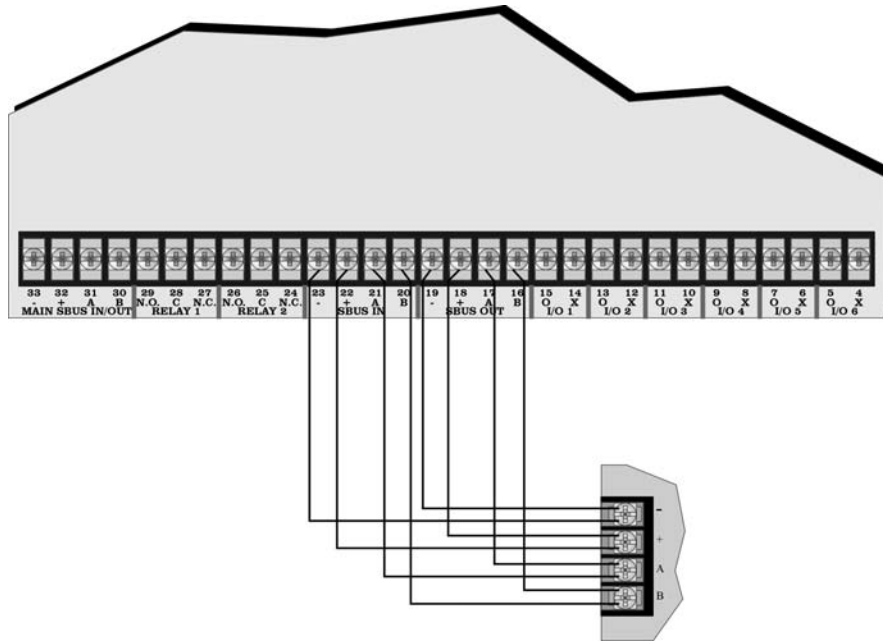
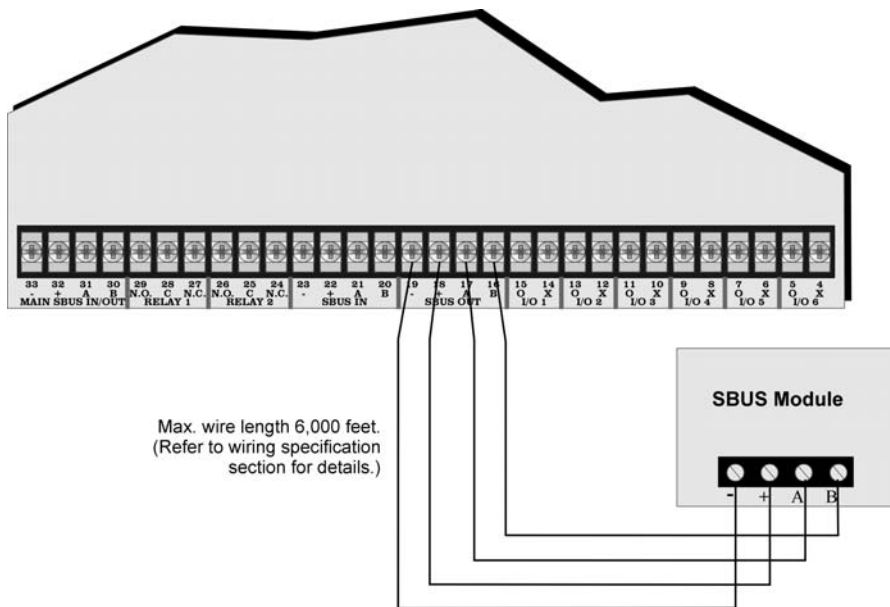

Figure 3-6 SBUS Class A Connection to 5895XL
Figure 3-7 SBUS Class B Wiring to 5895XL
1. Connect SBUS modules to the 5895XL as shown in Figure 3-6 or Figure 3-7.